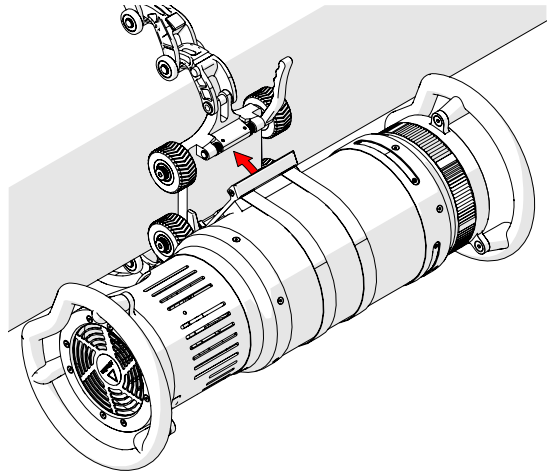

Fig. 95 - Mount source to source cart
14. Attach the source (Fig. 95) to the mounting plate (see "Mounting Plate" on page 35).
15. Angle the mounting plate (Fig. 95) and press the mounting plate onto the source cart base (see "Attaching the Mounting Plate" on page 34).